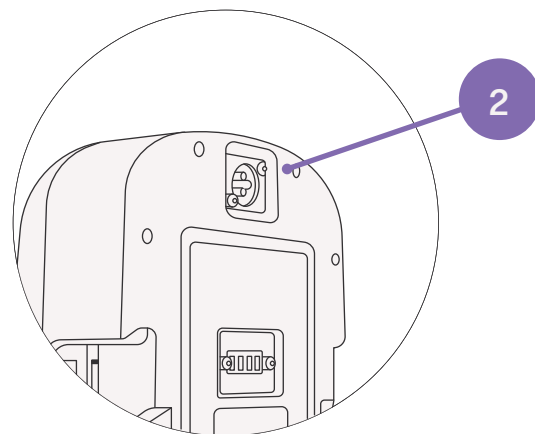

Figure 4.8.2
**Charging Method 2:** Remove the battery and connect the charger plug directly to the battery's charging port to begin charging (see Figure 4.8.2).